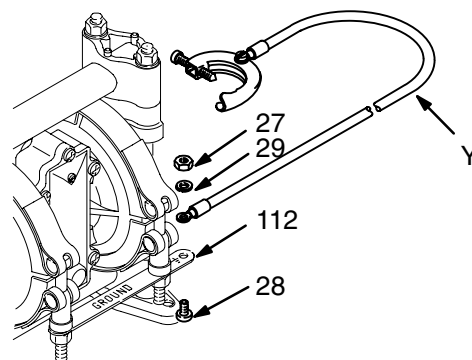

Fig. 1
- **Pump:** Attach a ground wire (Y) to the grounding strip (112) with the screw (28), lockwashers (29) and nut (27), as shown in Fig. 1. Connect the clamp end of the ground wire to a true earth ground. Order Part No. 819.0157 Ground Wire and Clamp.